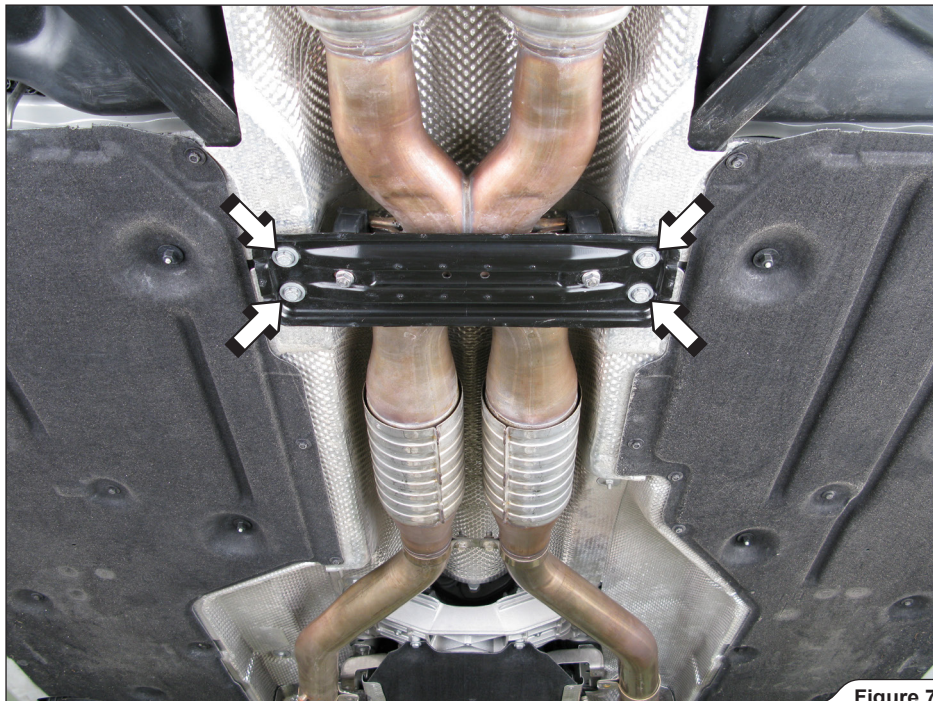

Figure 7
7. Unscrew the marked bolts and remove stock middle pipes together with bracket (**Figure 7**).